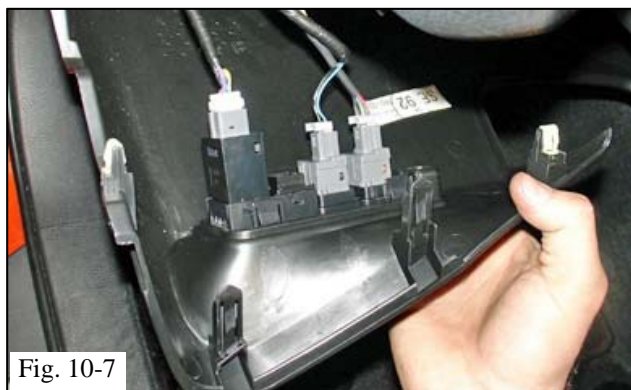

Fig. 10-7
- (h) Reinstall the switch panel removed in Step 9(a) (Fig. 10-7).